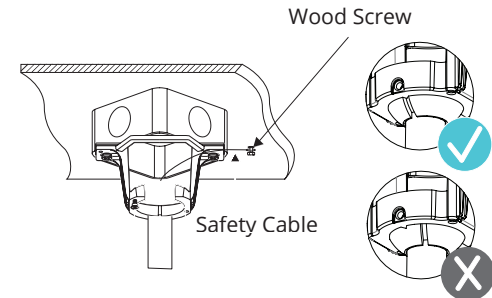

FIG. 11
3. Carefully lift the fan motor assembly up to the mounting bracket and seat the hanger ball in the mounting bracket socket. Make sure the tab on the mounting bracket socket is properly seated in the groove in the hanger ball (FIG. 11). Rotate the socket assembly until the ball drops and locks into the hanger bracket screw.
4. Secure the safety cable to the building structure using wood screw (FIG. 11).